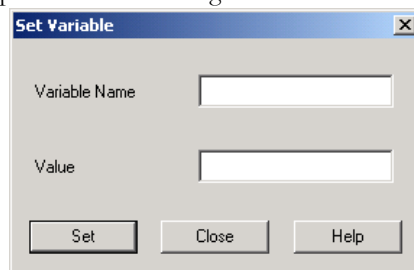

Figure 7-20. Set Variable Dialog Box
1. **From the Options menu, click *Set Variable*.** The Set Variable dialog box appears as shown in Figure 7-20.